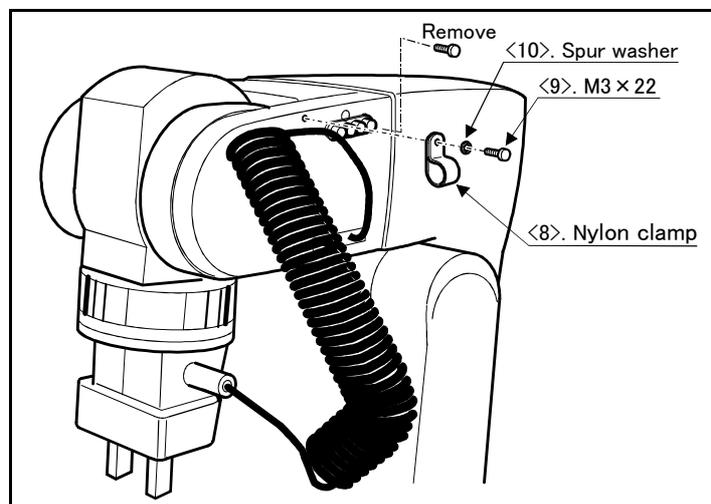

Fig.3-5 : Fix the motorized hand cable
- 4) Remove the installation screw on the top of the forearm cover, and fix the hand curl cable <7> with the nylon clamp <8>, M3 x 22 <9> and flat washer <10> enclosed with the robot arm. (Tighten with the cover) Fix so that force is not applied on the motorized hand connector <6> when the robot's J5 axis and J6 axis move. (Adjust the fixing force with the size of the nylon clamp.) (Fig. 3-5)